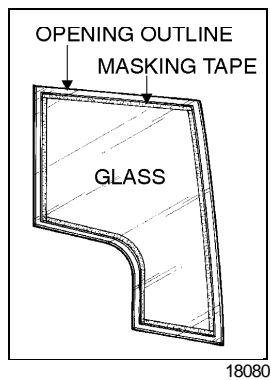

FIGURE 52: ADHESIVE MOUNTED WINDOWS
4. Place masking tape on the inside surface of the glass to just cover the china pencil mark, leaving the outer surface exposed for the adhesive. This will make cleanup much easier. For ease of removal, do not overlap the tape at corners. See figure 52.